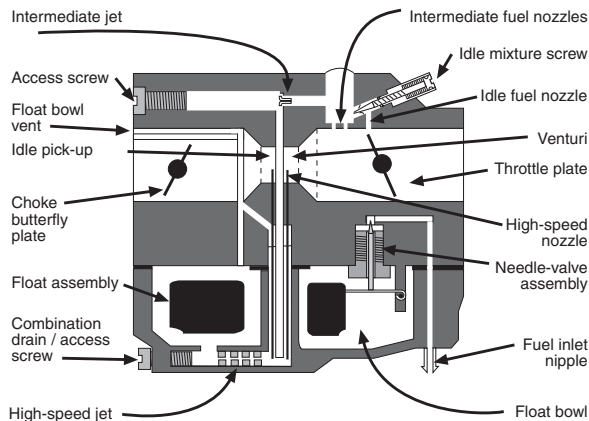

Figure 7-7. Inside a typical carburetor.
Figure 7-7 illustrates the internal layout of a typical outboard engine carburetor. You'll note that carburetors contain a series of subsystems that in technical lingo are referred to as "circuits." Each of these circuits carries out a specific job, and may operate only at cer-
**The High-Speed Circuit.** The high-speed circuit consists of the high-speed jet, located at the bottom of the float bowl, and the tube that connects the float bowl with the center of the venturi, sometimes referred to as the high-speed fuel nozzle. This tube will often surround the idle pickup tube, as illustrated in Figure 7-7.
The simplest, and most common, method is illustrated in Figure 7-7. With this system, the choke but-